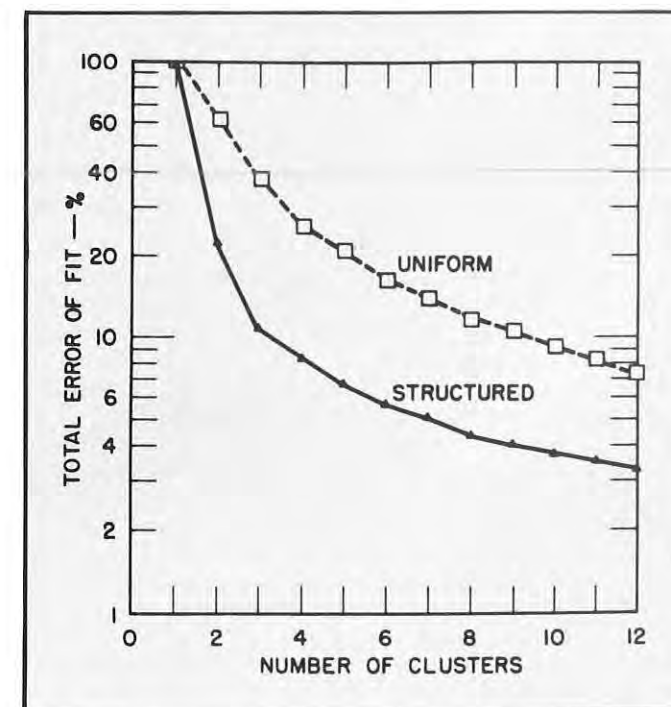

FIGURE 4: Computer plot of component spherical aberration
One of the numerical processing algorithms that is currently available is a clustering program called ISODATA (6). This routine finds suitable cluster points to represent groups of multivariate samples that are similar. These samples may or may not emanate from the same population, and no account is taken in ISODATA of any category information. A clustering characteristic curve that exposes the overall data structure can be obtained from ISODATA, as shown in Fig. 4